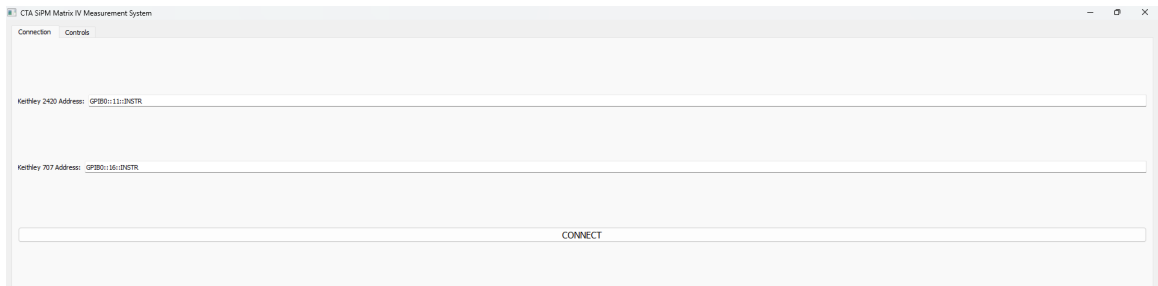

Figure 1: Connection tab
- **Connection Tab:** connection setup and hardware interfacing (fig. 1).